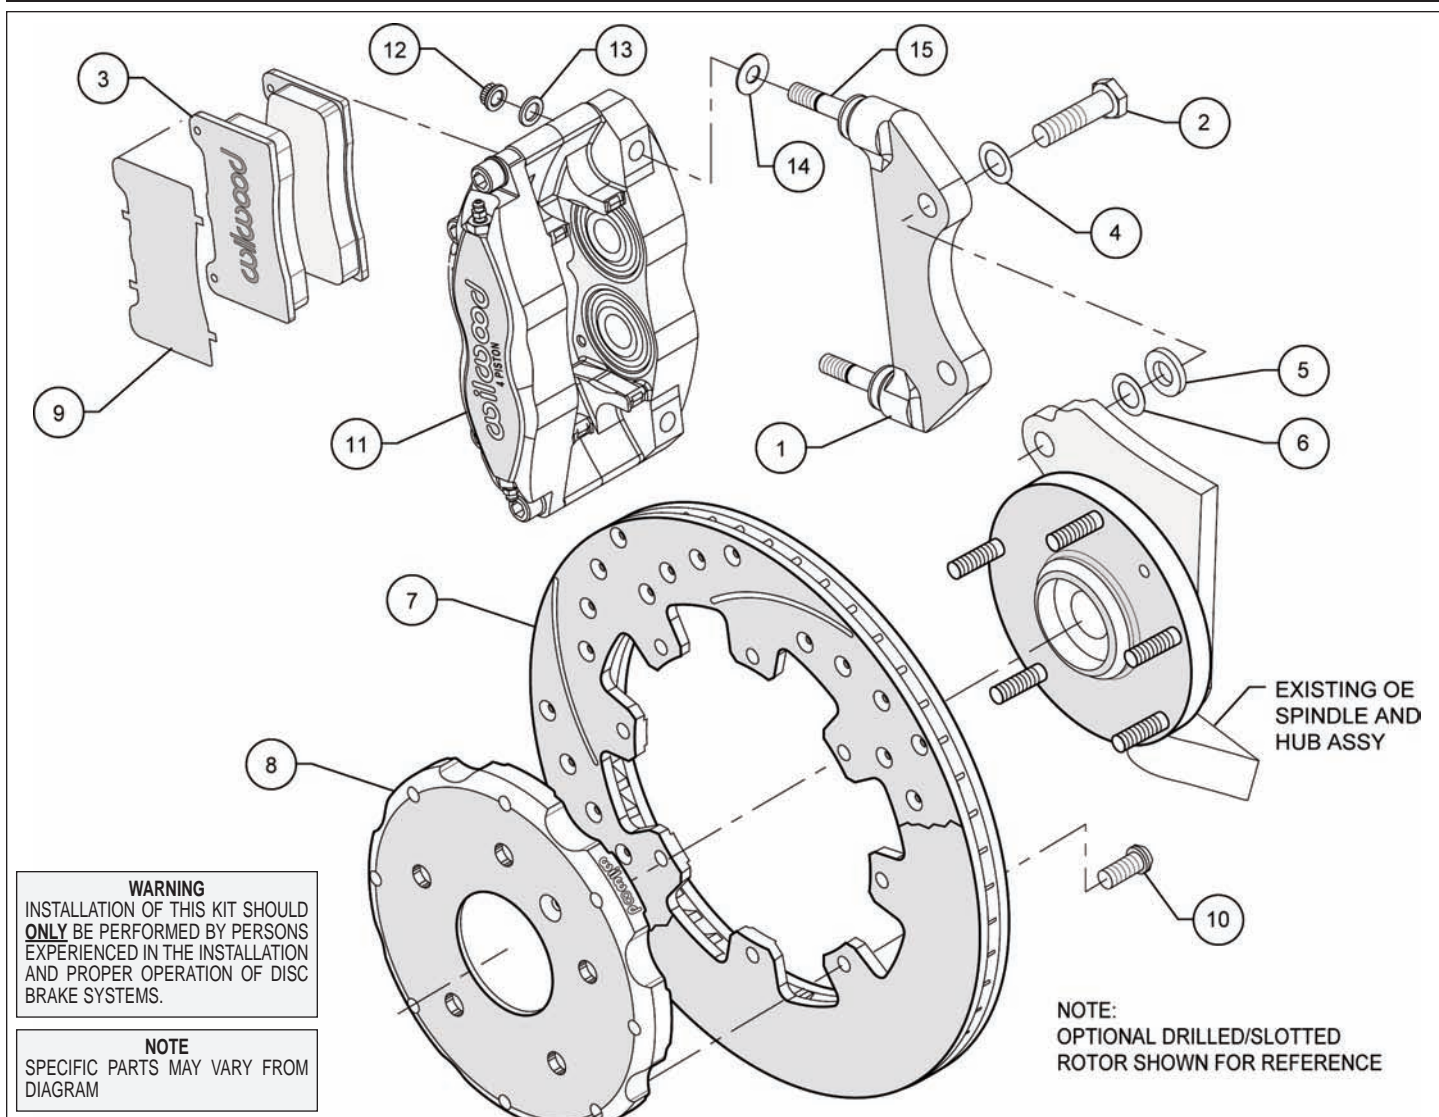

Figure 1. Typical Installation Configuration
- The caliper mounting bracket assembly (1) should be installed first with clean, dry threads on the mounting bolts. Install the bracket from the rear side of the spindle by sliding bolts (2) through washer (4). Place spacer (5), and washer (6) between the bracket (1) and the backside of the spindle (see Figure 1). The bracket must tighten squarely against the side of the spindle body. Inspect for interference from casting irregularities, machining ridges, burrs, etc. Use one thin shim (6) between the spacer and spindle during initial trial fitting.
- With the larger I.D. side of the rotor (7) facing away from the hat (8), attach rotor (7) to hat (8) using bolts (10) as shown in Figure 1. Using an alternating sequence, remove bolts one at a time, apply red *Loctite*® 271 to the threads, and torque to 25 ft-lb.
- NOTE:** *Please reference the caution statement at the beginning of the assembly instructions.* Install one shim (14) over each pre-installed stud (15) on the radial mount bracket (1). Slide the caliper (11) in place over the studs and rotors and install the washer (13) and lock nut (12) to hold the caliper in place. Snug the lock nuts (12) and check that the rotor (7) is centered in the caliper (11). Add or subtract .015" shims (6) as necessary between the spacer and the spindle to center the caliper (7).
- Remove the caliper quick-clip pad retainer from the caliper. Remove the protective material from the adhesive side of the anti-squeal shims (9) and place against the backing plate side of the brake pads (3) utilizing the contour of the backing plate as a guide. Secure material to backing plate by bending the four tabs over the edge of the backing plate. Slide the brake pads (3) with the shims into place. They should install easily without interference. Check that the brake pads are approximately .05" above the outside diameter of the rotor. Add or subtract shims (14) between the caliper and mount bracket to gain the proper alignment. Reinstall the quick-clip pad retainer.
- Once all clearances have been checked, remove the wheel, caliper, hat, and rotor from the spindle and hub. Secure the caliper mounting bracket (1) to the spindle using red *Loctite*® 271. Torque the bolts to 47 ft-lbs. Reinstall the hat and rotor assembly and again use several lug nuts to hold it in place. Lubricate caliper mounting studs and nuts with lightweight oil, reinstall the caliper, torque the caliper nuts (12) to 30 ft-lb.